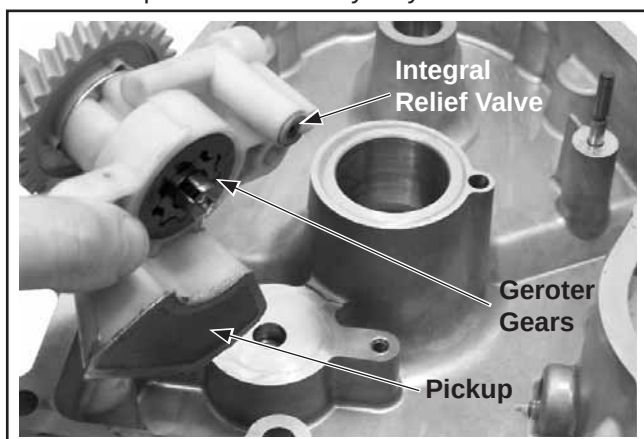

Figure 9-16. Oil Pump Components, Oil Pickup, and Integral Relief Valve.
2. Lift the oil pump assembly from the oil pan. See Figure 9-16.